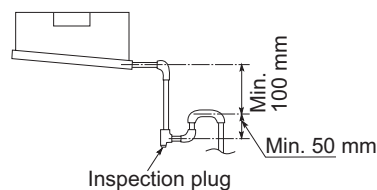

Fig. 2-156
- (5) Also, in another part of the pipe arrangement, prepare traps with an inspection plug to clean dust or debris that may cause leaking of water. (Fig. 2-156)
- (6) After connecting the drain piping, slowly pour water into the drain pan to check that the water drains smoothly.